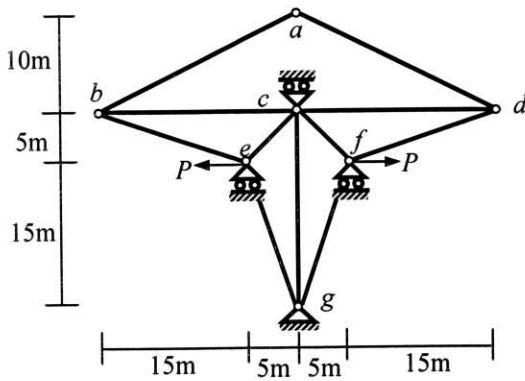

Fig. 2
2. Fig. 2 shows a plane truss *abcdefg* whose joints *e* and *f* deflect 10-mm to left and right respectively due to the forces *P* applied. Use symmetry and calculate the